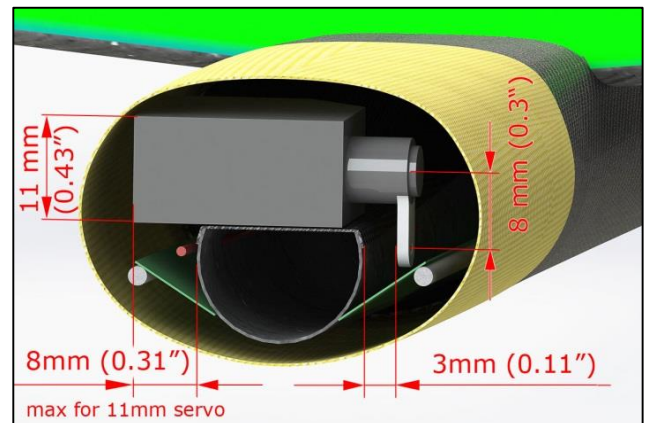

Figure 2.28 - Placement of the elevator servo
**attention:** If you are using a servo thickness of 11 mm, pay attention to the location to ensure that there is no interference with the nose cone. (Figure 2.28 - 2.30).